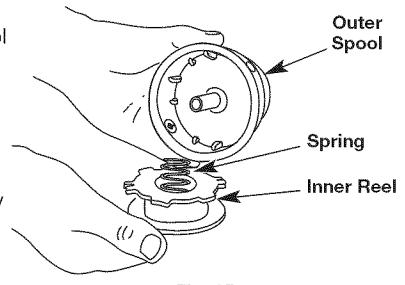

Fig. 15
- Remove the inner reel from the outer spool (Fig. 15).
2. Remove the old inner reel from the outer spool (Fig. 15).
3. Remove the spring from the old inner reel (Fig. 15).